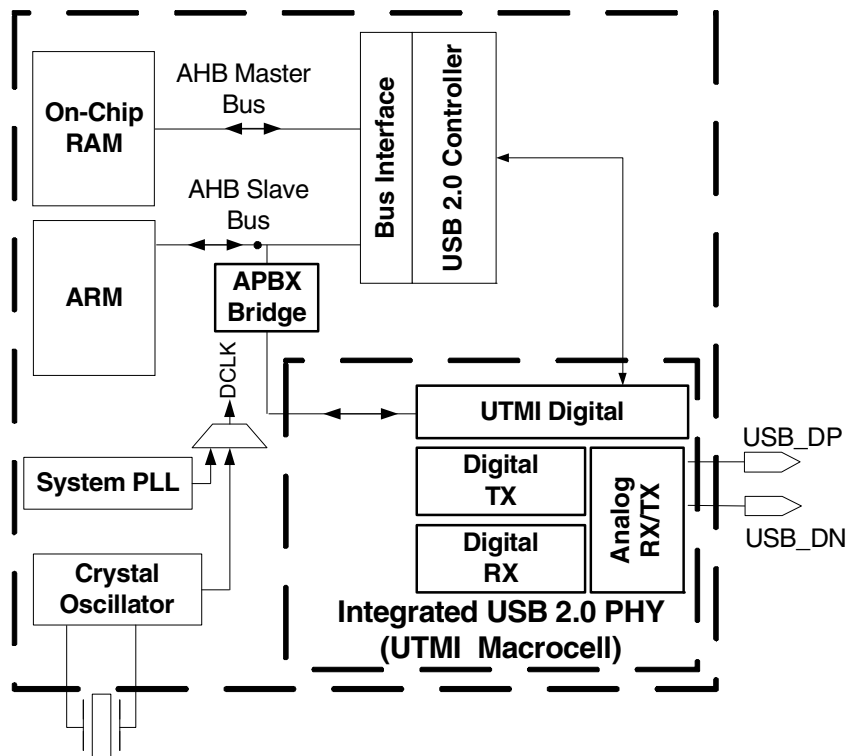

Figure 9-1. USB 2.0 PHY Block Diagram
The i.MX23 contains an integrated USB 2.0 PHY macrocell capable of connecting to PC host systems at the USB full-speed (FS) rate of 12 Mbits/s or at the USB 2.0 high-speed (HS) rate of 480 Mbits/s. See Figure 9-1 for a block diagram of the PHY. The integrated PHY provides a standard UTM interface. The USB\_DP and USB\_DN pins connect directly to a USB device connector.